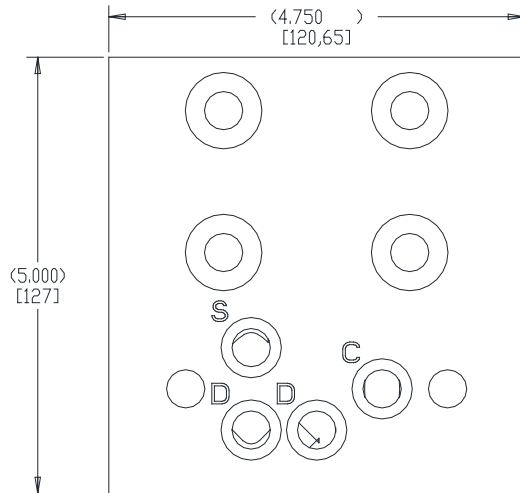

Figure 2-1a. Hydraulic Manifold Block to Adapter Manifold Interface
The Supply pressure (S), Control pressure (C), and Tank/Drain (D) connections on the Voith to CPC-II Adapter Manifold are made via O-ring face seals. The connections are marked S, C, D on the adapter block as shown in Figures 2-1a and 2-1b.